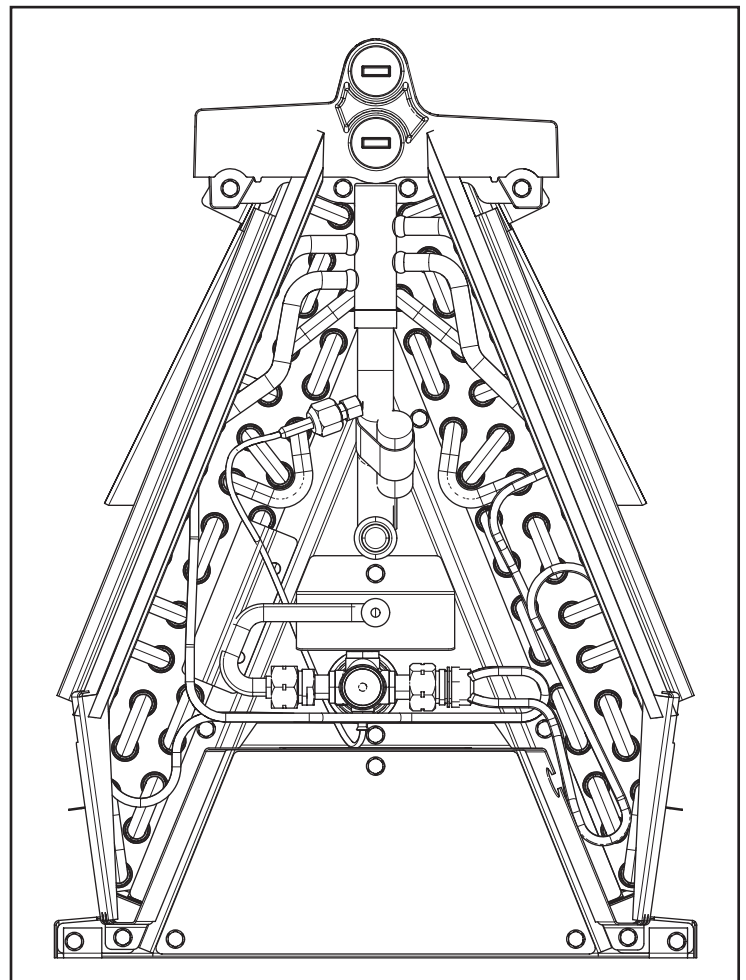

Figure 63 – Completed assembly
13. See Figure 63 for image of completed coil.